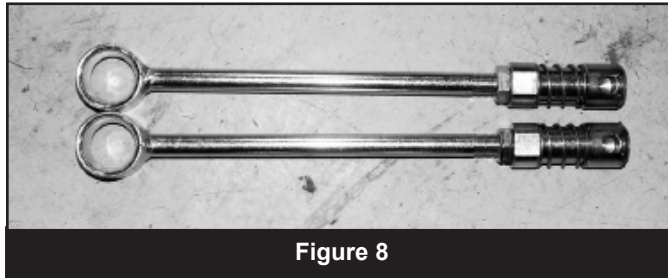

Figure 8
31. Lightly grease and install the provided provided sleeves (45313) into the link bushings. Thread the nut and assembly all the way on to the link (Fig 8). Attach the links to the u-brackets on the sway bar with the provided 3/8" x 2-1/2" bolt, nut and 3/8" SAE washers, running from the inside out. Torque bolt to 30 ft-lbs. Leave the sway bar links disconnected at this time.